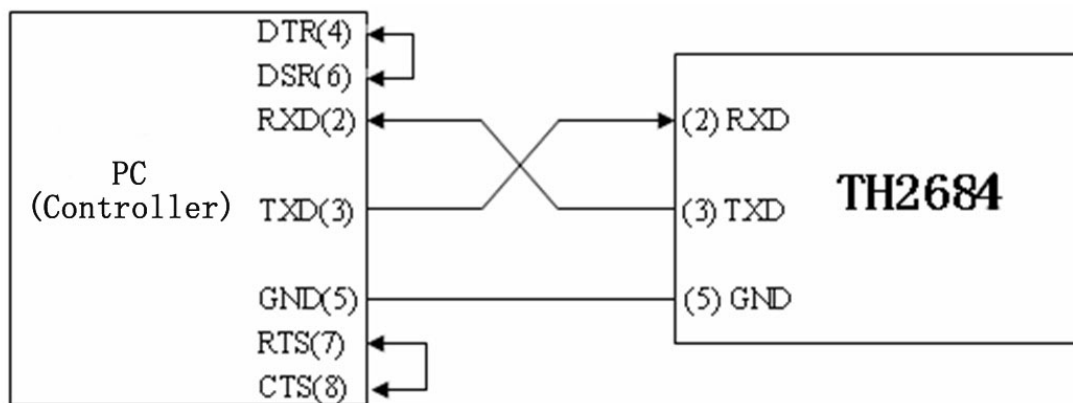

Figure 7-1-2 Connection of the instrument with PC
- The connection of the instrument with PC is shown in figure 7-1-2:
Figure 7-1-2 shows that the serial interface pin definition of this instrument is different from that of 9 pin connector used in IMB AT compatible computer. User can make three-wire connection cable by using double-core shielding lines or purchase the serial interface cable from our company. When making connection cable, please short the 4th pin and the 6th pin, the 7th pin and the 8th pin.